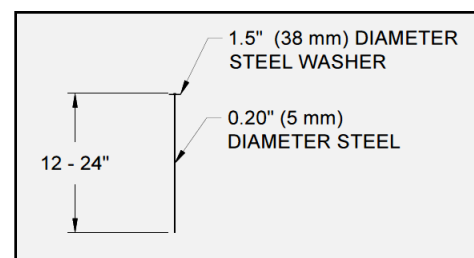

Figure 13: Securing Pin
3. Secure Pyramat with pins and PDEAs in the COS trench. Pins should be made of steel with a 0.20 in (5 mm) minimum diameter, having a 1.5 in (38mm) diameter washer at the head, and a length between 12 and 24 in (300-600 mm) with sufficient ground penetration to resist pullout (Figure 13). Longer pins may be required for looser soils. Heavier metal stakes may be required in rocky soils. Suggested placement of pins and PDEAs for the COS trench is along the bottom of the trench with pins on 12 in (300 mm) centers in between PDEAs on 4 ft (1.2 m) centers. PDEAs should also be installed on panel edge overlaps in the COS trench.